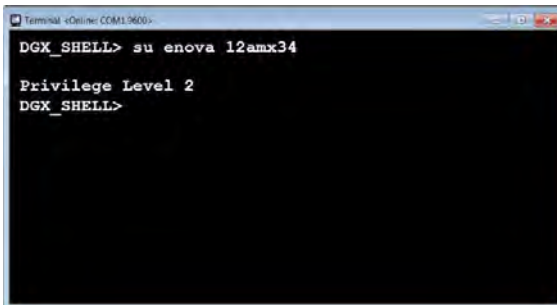

FIG. 167 DGX_SHELL - su enova 12amx34
- a. From the DGX_SHELL prompt, type `su enova 12amx34` followed by <enter> (FIG. 167):